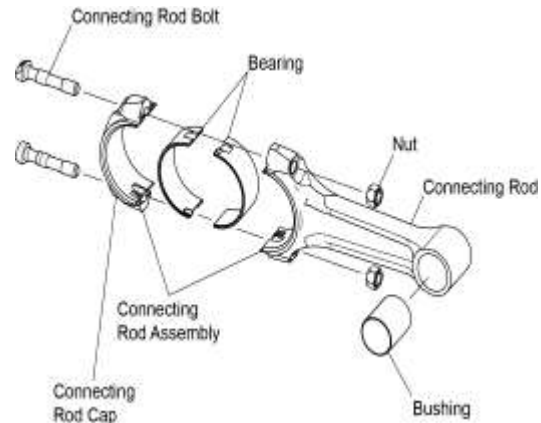

Figure 1
- A. Remove and discard the two nuts (Figure 1) also discard the two bolts that attach the connecting rod cap to the connecting rod.